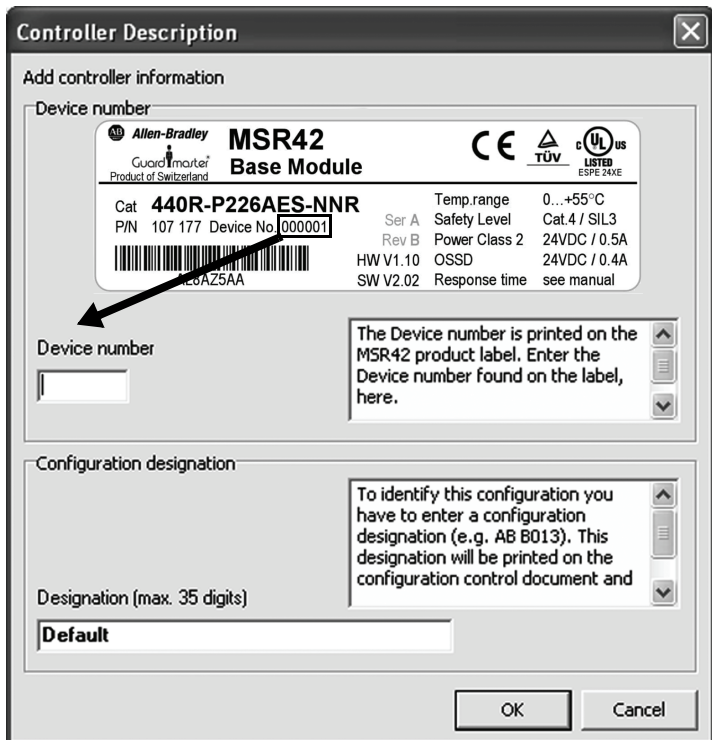
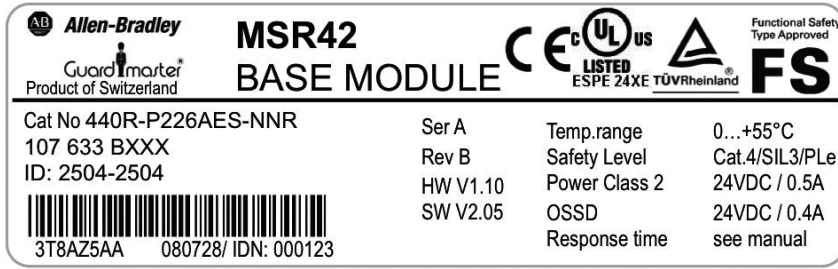

Figure 45: Input of device no. and designation
Figure 46: Device no. printed on label
7. The “Controller Description” window opens (*Figure 45*) and requests the MSR42 device no. and a “designation.” The device no. can be found on the label of the control unit (*Figure 46*). Enter this information and press “OK” button.